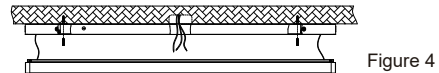

Figure 4
Step4. Lead the wire into the lamp and install the lamp chassis by using the screws in the accessory kit (figure 4)